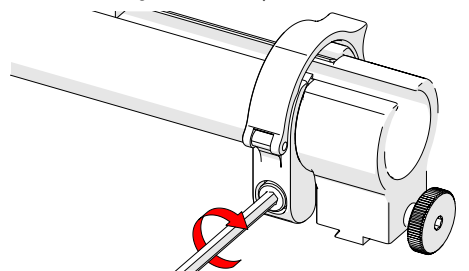

Fig. 71 - Tighten clamp screw
4. Tighten the clamp screw (Fig. 71).